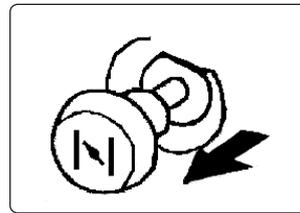

fig.9
- 6.3.5. Turn the choke knob fully out fig.9.